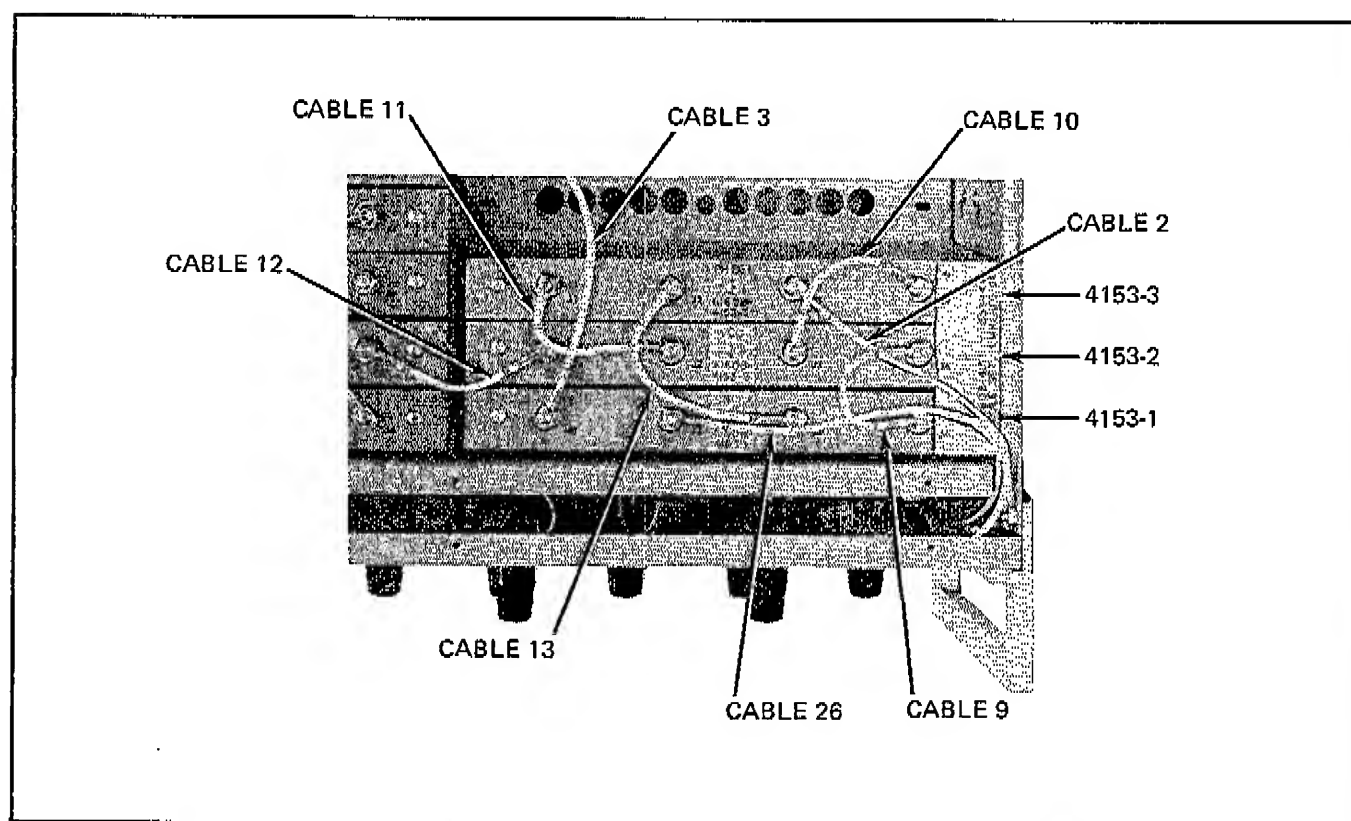

Figure 4-11. 1 MHz MODULE SET CABLING CONNECTIONS
- t. Refer to Figure 4-11 and assemble module set in order shown. Attach module set joiners (2).
- u. Secure module set to synthesizer. Connect numbered cables in accordance with Figure 4-11. Connect wiring in accordance with Figure 4-3.